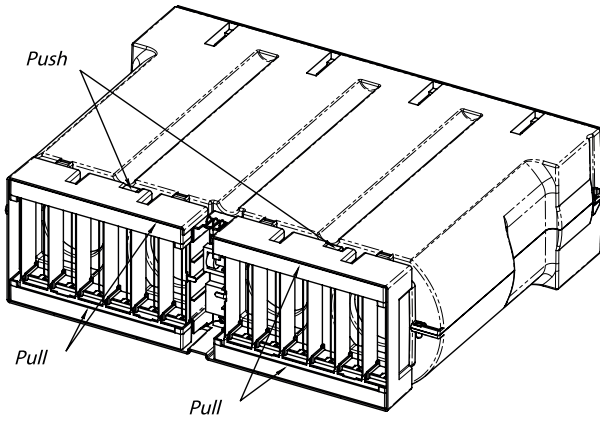

Figure 20. Charger removal
6. Extract the chargers by pulling them as shown in Figure 20;